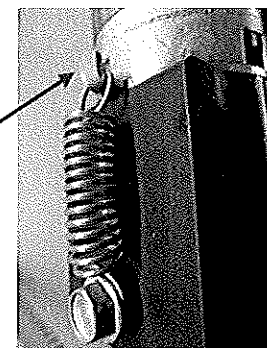

Figure 17
- Using a pick tool, remove the end of the retaining spring from the motor spring clip (**FIGURE 17**).